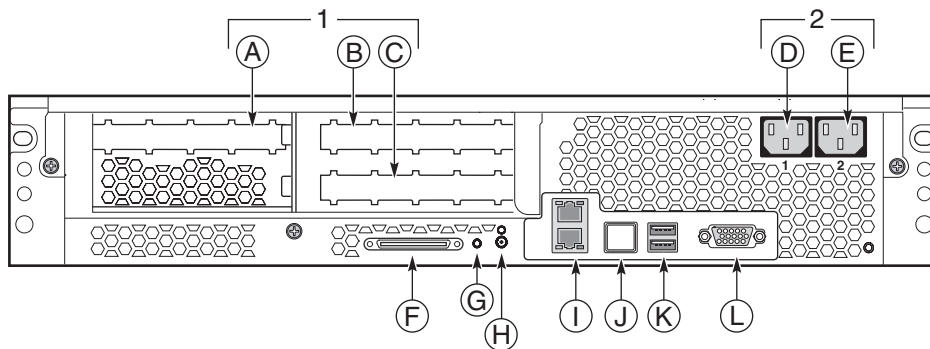

Figure 10. Chassis Rear Features
- Connectors, switches and LEDs at the rear of the chassis (see Figure 10)